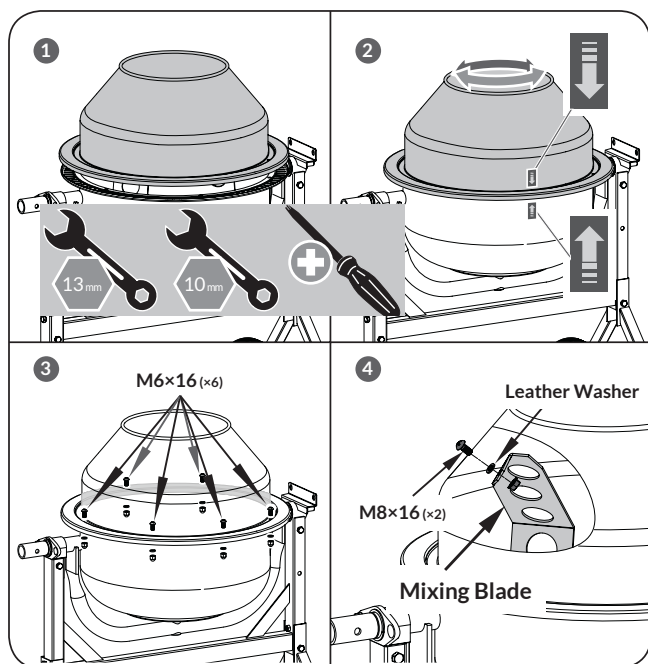

Figure 4
1. Place the upper drum onto the bottom drum by aligning both the mounting holes, and the labeled arrows. (See **Figure 4, Illustration 1 & 2**)
2. Insert a M6×16 cross headed screw into each mounting holes in the rim. Secure each screw from below with a lock washer and nut. Make sure the tightening process is carried out progressively. (See **Figure 4, Illustration 3**)
4. A leather washer should be positioned inside between the drum and blade. Secure the mixing blade on the inside using a nut. (See **Figure 4, Illustration 4**)